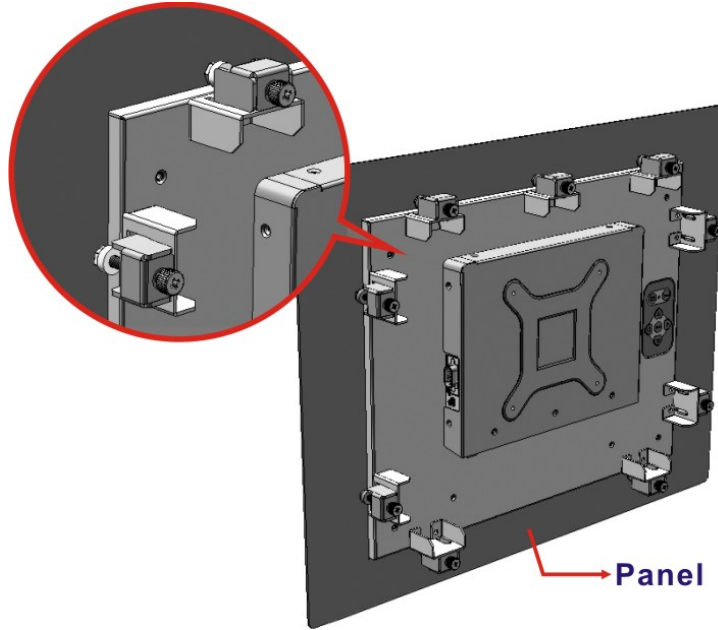

Figure 3-27: Panel Mounting Clamp Installation
Step 5: Insert the panel mounting clamps into the pre-formed holes of the clamp holders (Figure 3-27).
Step 6: Tighten the screws that pass through the panel mounting clamps until the plastic caps at the front of all the screws are firmly secured to the panel (**Figure 3-27**).